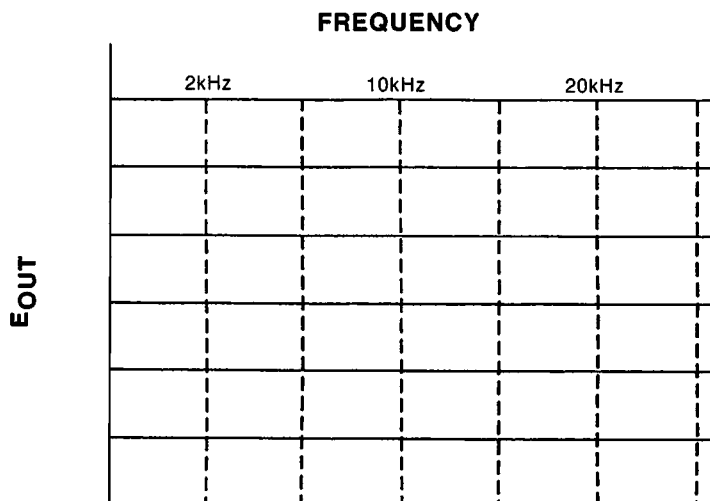

Figure 5-41
11. Connect the voltmeter across R. Using the procedure outlined in steps 4 through 8, plot the response curve for this circuit. Use the graph shown in Figure 5-41 to plot the curve.